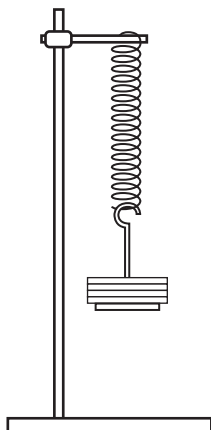

Fig. 1.1
- 1 (a) A spring is loaded with a mass of 250 g and comes to rest as shown in Fig. 1.1. Mark on Fig. 1.1 the size and direction of the forces acting on the **mass** in this position.